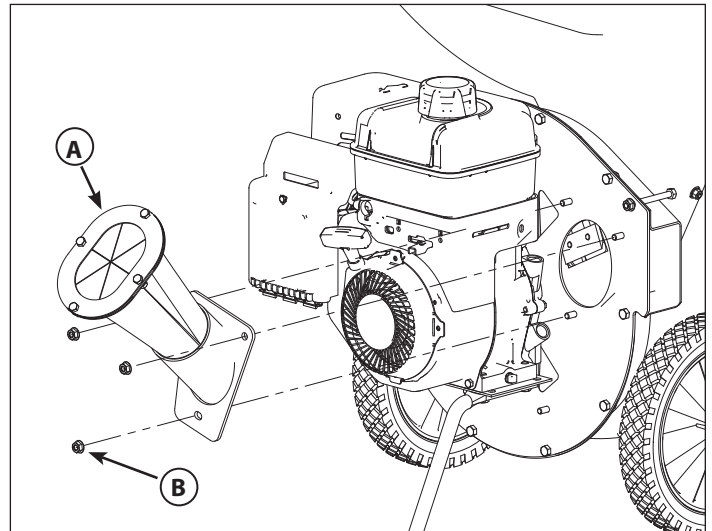

FIGURE 1 - Installing the Chipper Cone
1. Position the chipper cone (A) over the three 5/16-18 threaded studs protruding from the engine plate, and attach using three 5/16-18 flange nuts (B). **SEE FIGURE 1**
1. Remove the fuel cap (see Figure 1).